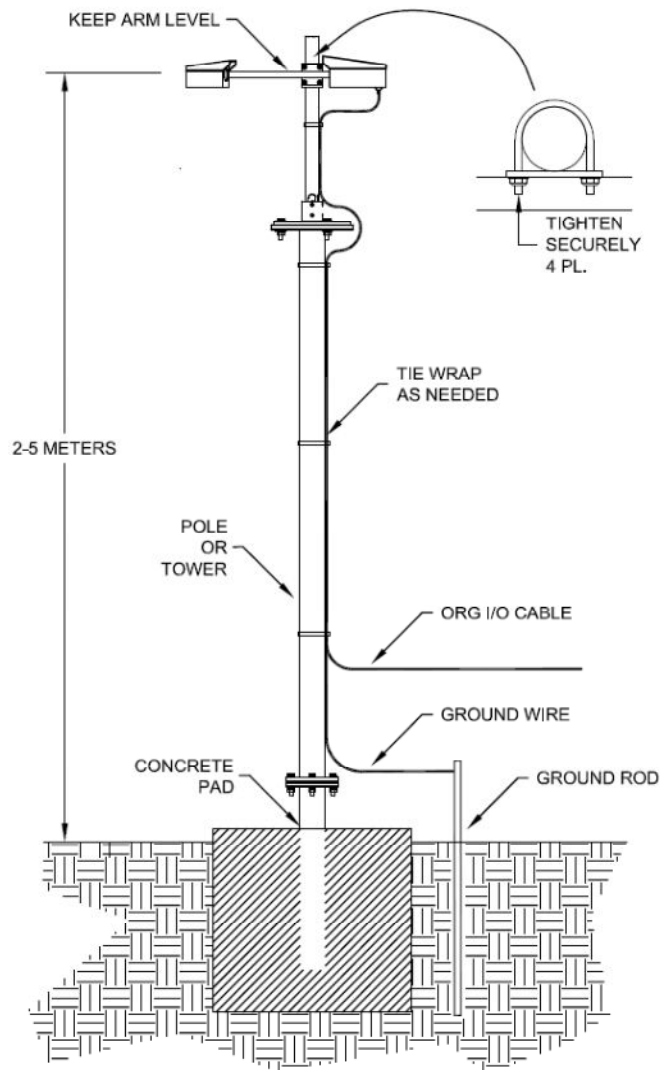

Figure 2.2 Typical ORG Installation
3. Attach the sensor head to the mounting pole using the two (2) U-bolts. Do not tighten the U-bolt nuts completely until the head is oriented.
8. A typical installation is shown in Figure 2.2.